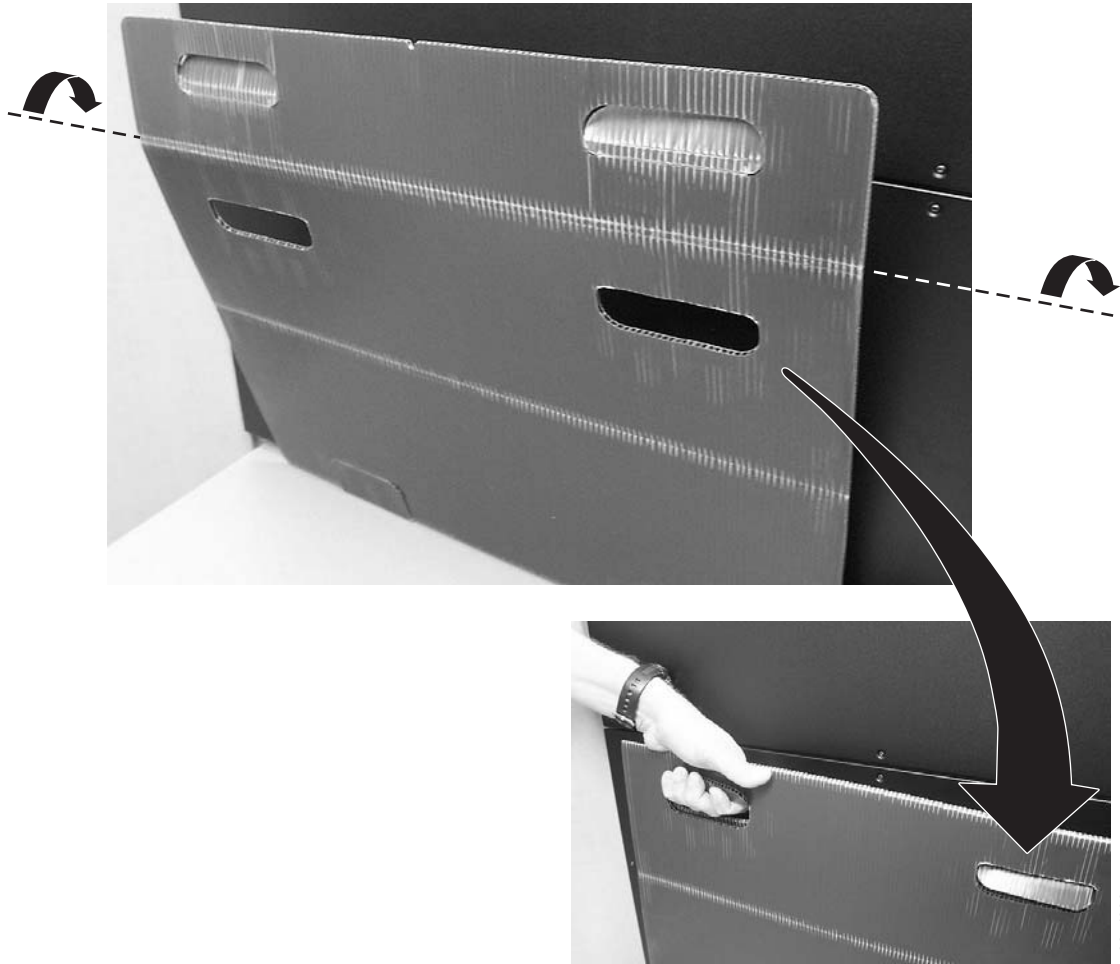

Figure 3-23. Sling
4. With a person on each side of the module, lift the module with the sling provided (see Figure 3-23 on page 3-25 to see how the sling handles should be folded).